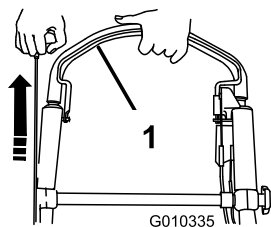

Figure 21
3. Hold the blade control bar against the handle and pull the recoil starter (Figure 21).